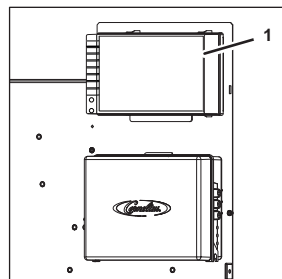

Figure 119
1. Open the cover (Figure 119/1) of control system 2.
7. Close the cover (Figure 119/1) of control system 2.